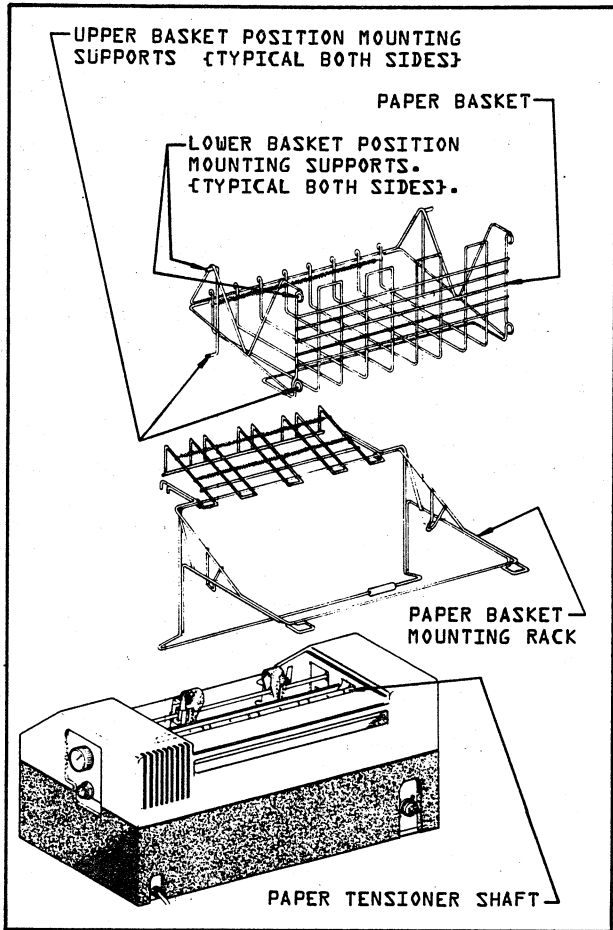

FIGURE 2-12. PAPER BASKET OPERATION (Basket shown in lower mounting position)
Paper Basket Operation (Figure 2-12)
4. Reach under the printhead support casting with your fingers and unplug the printhead harness connector from the printhead flat cable connector (Figure 2-12).
8. Mount the new printhead to the printhead support casting. Note that the hole on either side of the printhead should be slid over the guide pins on either side of the mounting surface on the printhead support casting. Slide the printhead toward the rear of the printer and until it is seated against the mounting surface on the support casting (Figure 2-12).
9. While holding the printhead against the mounting surface of the support casting with one hand clamp it in place with the two clamping levers as shown in Figure 2-12. Caution should be taken to assure that the notches on the clamp levers are placed on the corner of the printhead as shown in Figure 2-12 before clamping the printhead in place.
10. Route the printhead harness and connector as shown in Figure 2-12 and plug the printhead harness connector into the printhead flat cable connector. Note that the printhead harness connector guides should be on top when making the connection (Figure 2-12). Also assure that the printhead harness has been placed behind the retaining hook as shown in Figure 2-12.